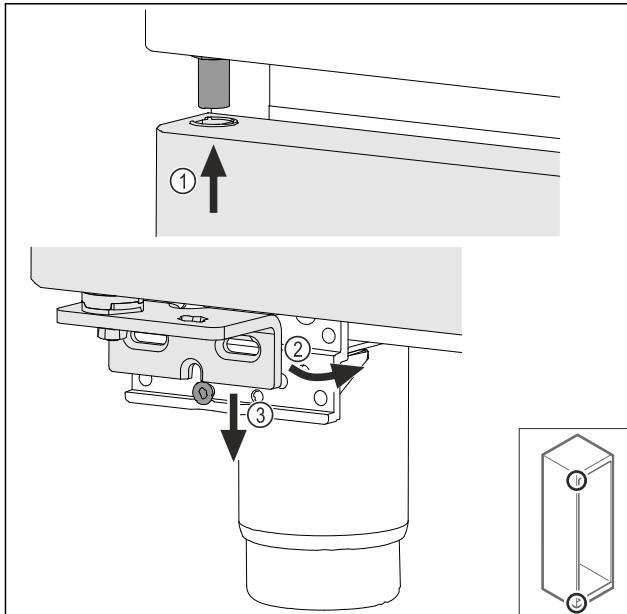

Fig. 37
- ▶ Feed in the door slightly tipped at the top Fig. 37 (1), align the door straight Fig. 37 (2) and fit the swap bearing blow screw Fig. 37 (3) at the bottom.